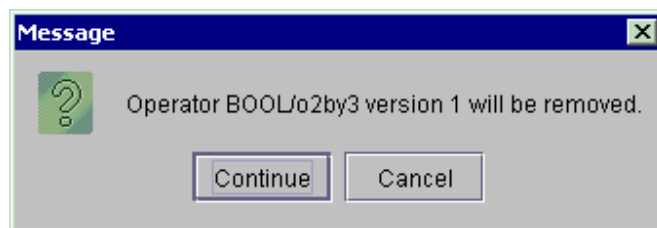

Figure 104 : Operator deleting message
- ♦ Select the **Model ... → Remove** command; a *Message* window (Figure 104) is then displayed indicating that the operator is going to be destroyed and precising which version